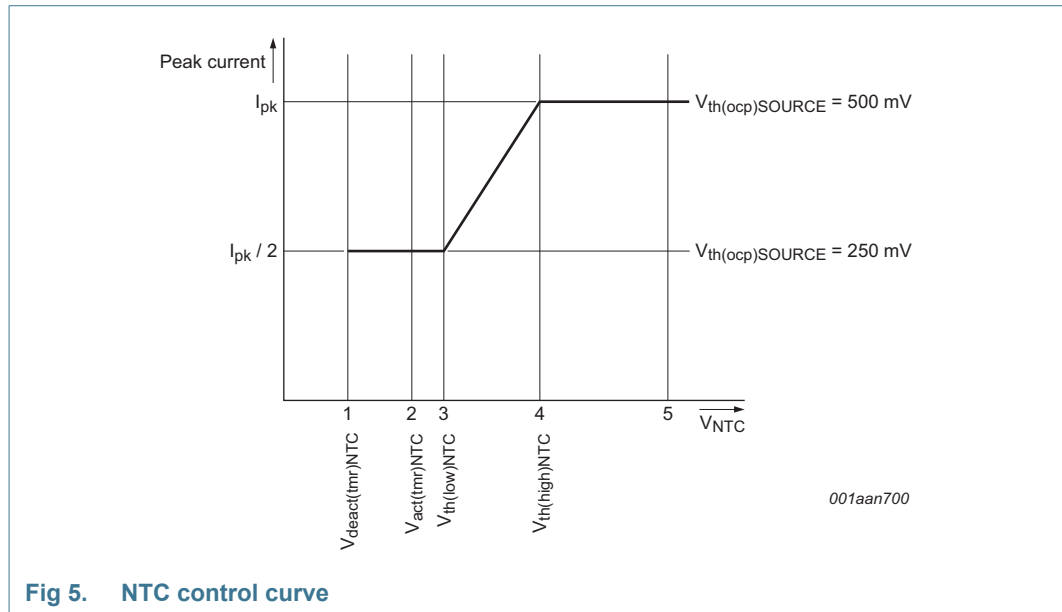

Fig 5. NTC control curve
The NTC pin can be used as a control method for LED thermal protection. Alternatively, the pin can be used as an input to disable/enable light output using a digital signal (PWM current regulation). The pin has an internal current source that generates the current of $I_{offset(NTC)}$. An NTC resistor to monitor the LED temperature can be directly connected to the NTC pin. Depending on the resistance value and the corresponding voltage on the NTC pin, the converter reacts as shown in Figure 5.
When the voltage on the NTC pin is higher than $V_{th(high)NTC}$ see Figure 5 \(4\), the converter delivers nominal output current. When the voltage is lower than this level, the peak current is gradually reduced until $V_{th(low)NTC}$ is reached, see Figure 5 \(3\). The peak current is now half the peak current of nominal operation. When $V_{act(tmr)NTC}$ is passed, see Figure 5 \(2\) a timer starts to run to distinguish between the following situations:
- If the low-level $V_{deact(tmr)NTC}$ is not reached within time $t_{to(deact)NTC}$, Figure 5 \(1\) LED overtemperature is detected. The IC stops switching and attempts to restart from the HV pin voltage. Restart takes place when the voltage on NTC pin is higher than $V_{th(high)NTC}$, see Figure 5 \(4\). It is assumed that the reduction in peak current did not result in a lower NTC temperature and LED OTP is activated.
- If the low-level $V_{deact(tmr)NTC}$ is reached within the time $t_{to(deact)NTC}$, Figure 5 \(1\) it is assumed that the pin is pulled down externally. The restart function is not triggered. Instead, the output current is reduced to zero. PWM current regulation can be implemented this way. The output current rises again when the voltage is higher than $V_{deact(tmr)NTC}$.
The NTC pin can be used to make a soft start function. During switch-on, the level on the NTC pin is low. By connecting a capacitor (in parallel with the NTC resistor), a time constant can be defined. The time constant causes the level on the NTC pin to increase slowly. When passing level $V_{th(low)NTC}$ Figure 5 \(3\), the convertor starts with half of the maximum current. The output current slowly increases to maximum when $V_{th(high)NTC}$ Figure 5 \(4\) is reached.